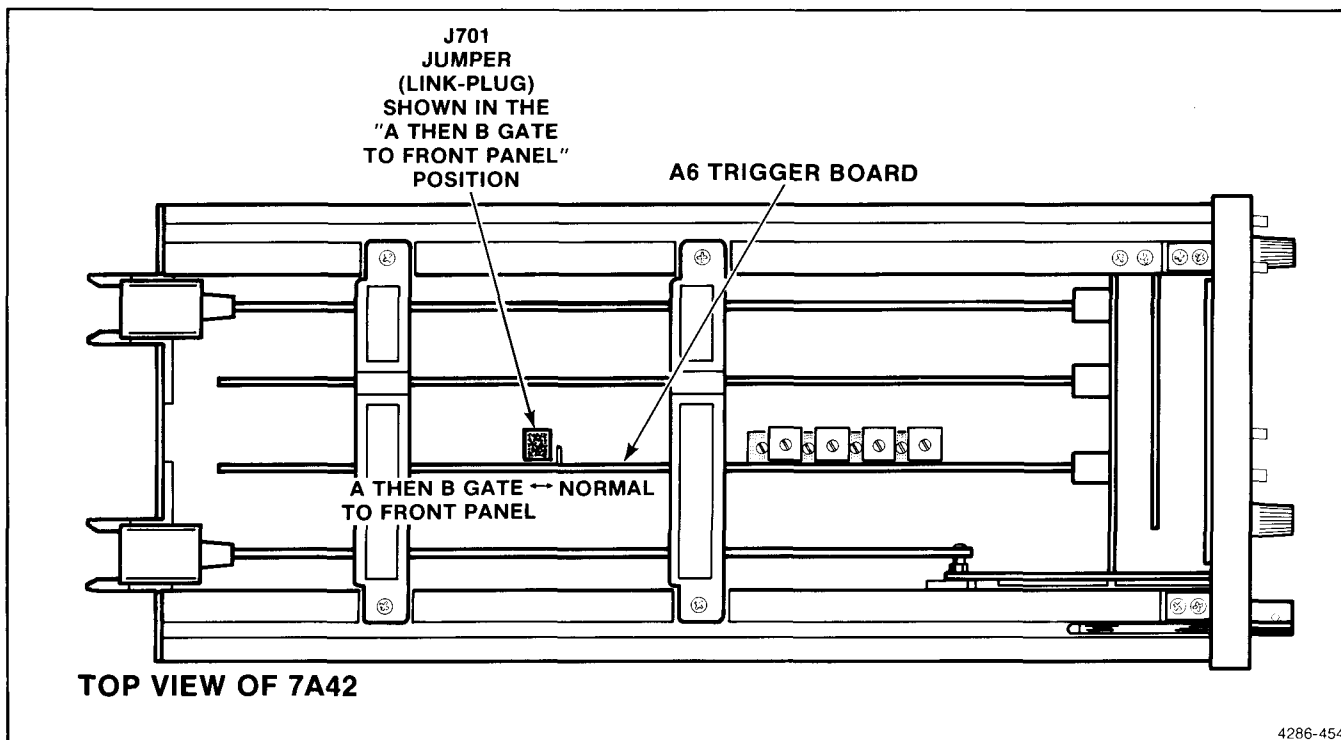

Figure 4-14. Location of J701 (Link-Plug) on the A6 Trigger Board.
- z. Move the J701 link-plug back to the Normal position (refer to Fig. 4-14).
- s. Move the J701 link-plug back to the Normal position (refer to Fig. 4-14).